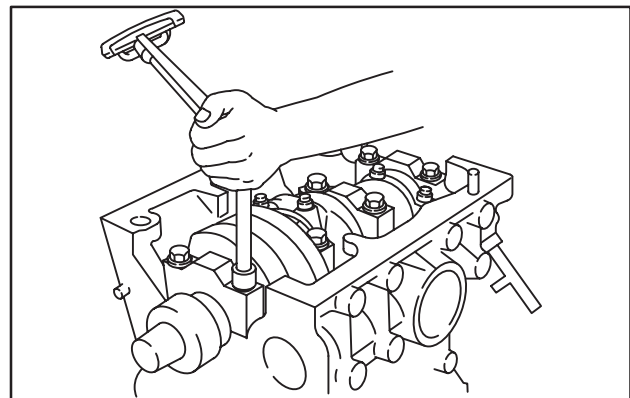

Fig. 5 – Torque Bearing Cap
2. Assemble main bearing cap with bearing and torque to 61.0 Nm (45 ft. lbs.), Fig. 5.